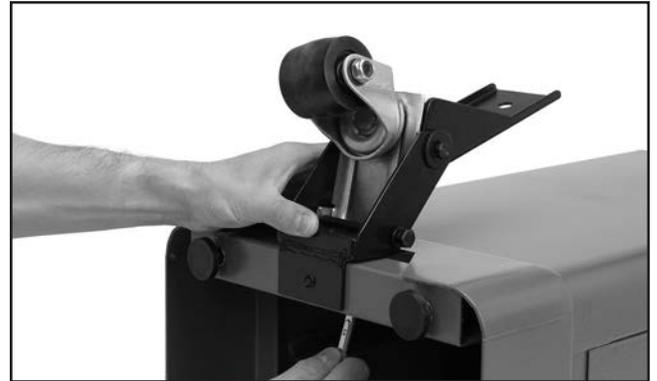

Figure 11. Installing locking foot pedal.
3. Use a 13mm wrench to install the M8-1.25 x 50mm hex bolt and washer as shown in **Figure 11**.